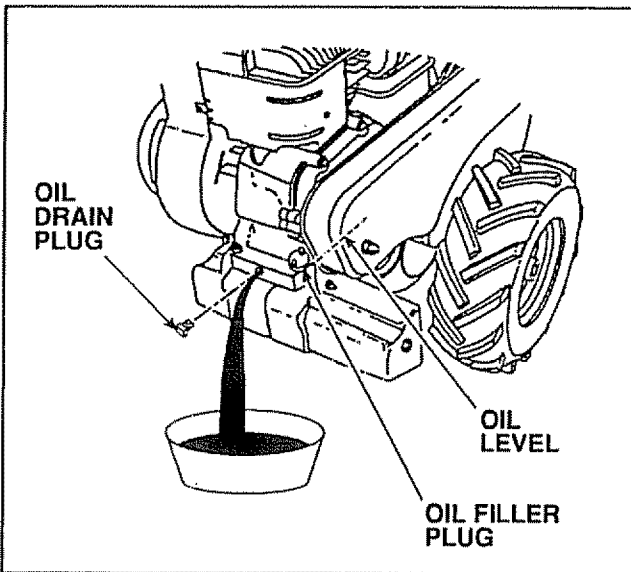

FIGURE 24
Your four cycle Engine will normally consume some oil, therefore check Engine oil level regularly—approximately every five hours of operation and before each usage. Stop Engine and wait several minutes before checking oil level. With Engine level the oil must be even with oil fill (Fig. 24). Change Engine oil after the first two hours of operation and every twenty five hours thereafter or at the beginning of every tilling season.
- Remove Oil Drain Plug (Fig. 24).